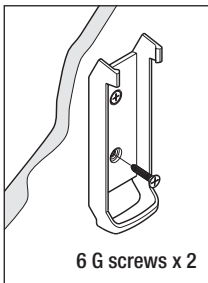

Fig. 22
4. Screw the cradle to the wall using 2 of 6 G screws (not supplied) and tighten screws (Fig. 22)